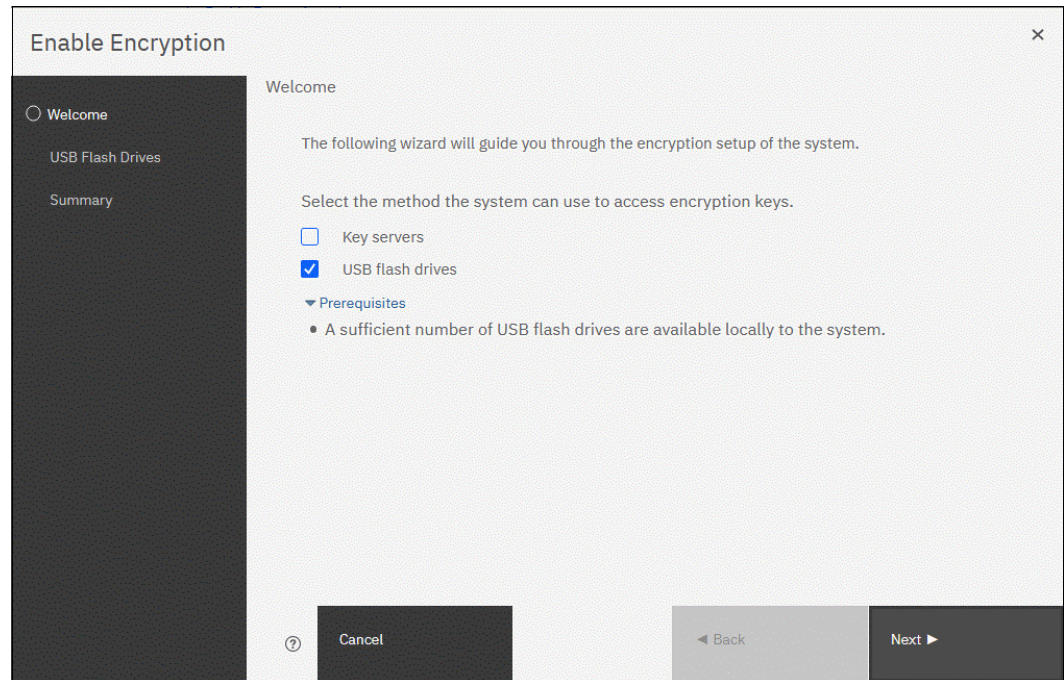

Figure 12-23 Selecting USB flash drives in the Enable Encryption wizard
1. In the Enable Encryption wizard Welcome tab, select **USB flash drives** and click **Next**, as shown in Figure 12-23.